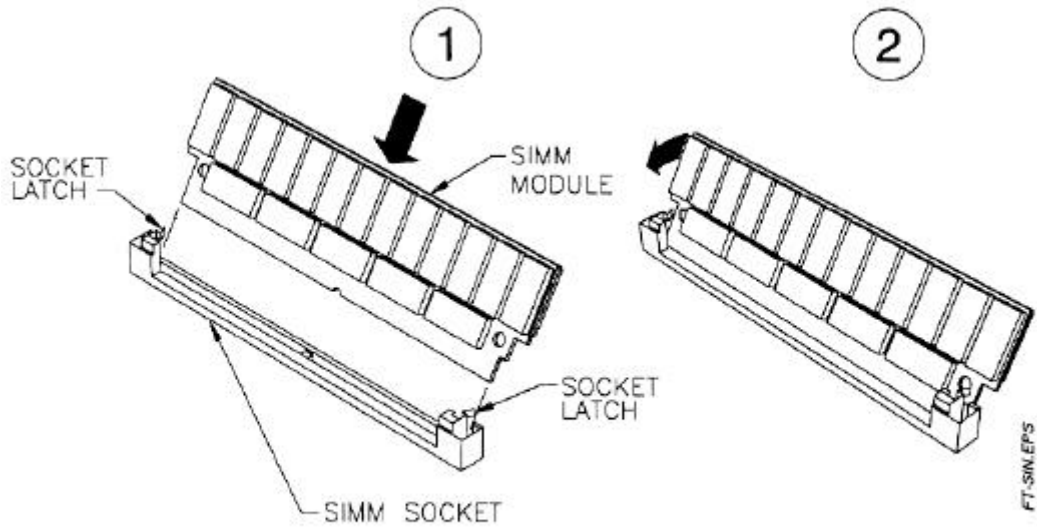

Figure 3-4: Installing Genuine ALR RAM
1. Angle the memory module slightly towards the system board as you insert it into the socket. Refer to Figure 3-4 if necessary.